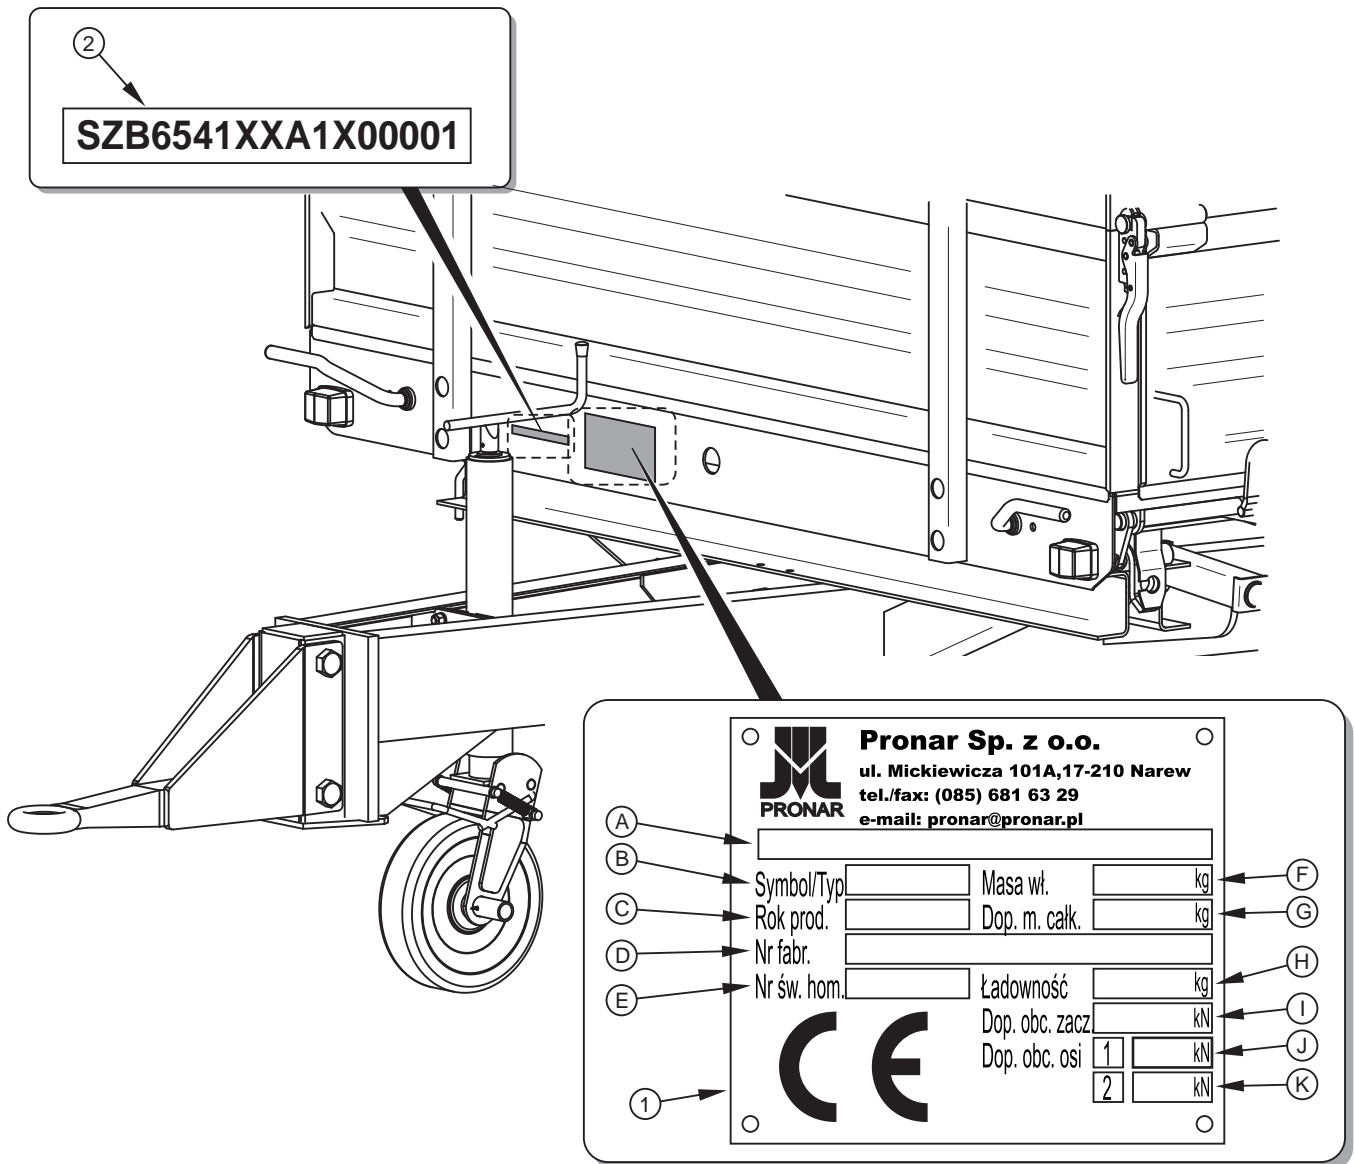

FIG. 1.1 Location of the data plate and serial number
(1) data plate, (2) serial number
The trailer is marked with the data plate (1), and the factory number (2) located on a gold painted rectangle. The serial number and data plate are on the beam of the trailer's upper frame (Fig. 1.1). When buying the trailer check that the serial numbers on the machine agree with the number written in the *WARRANTY BOOK*, in the sales documents and in the